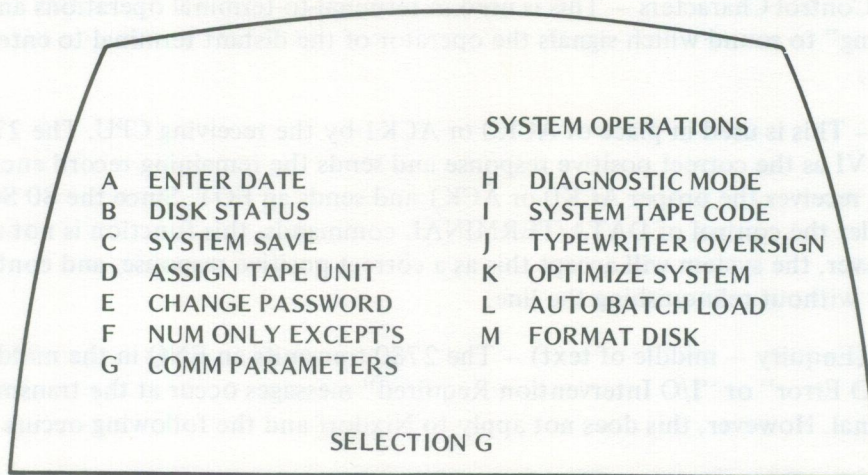
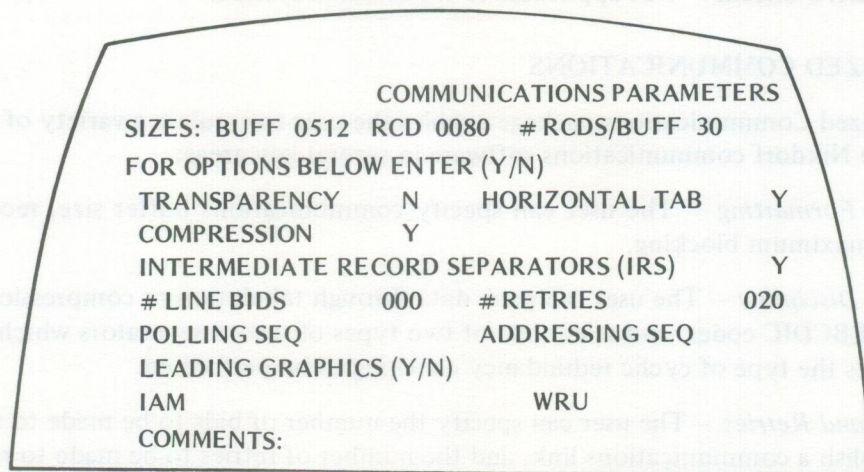

Figure 4-7. System Operations HELP List (with G selected)
Figure 4-8. Communications Parameters
To specify a Parameterized Communications configuration, select (G) COMM PARAMETERS from the System Operations HELP List (Figure 4-7). The communications parameters are then displayed on the screen (Figure 4-8).